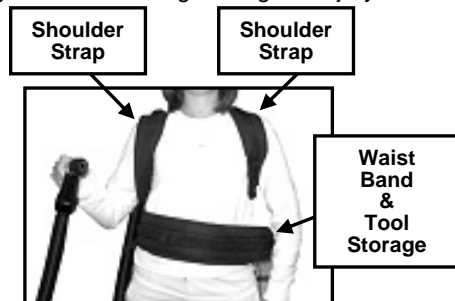

Fig. 20
- Correctly place shoulder straps on each shoulder and secure the waist band with hook and loop strips. (Fig. 20)